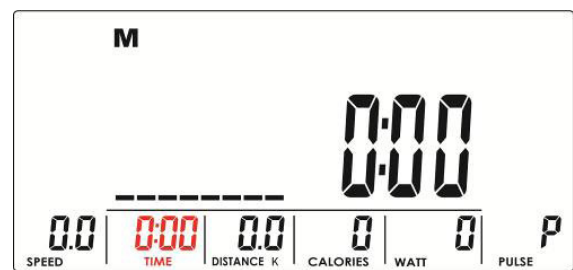

Figure 5
3. Set a value for time, distance, calories and/or heart rate with the jog dial and confirm each value with the Mode button (Fig. 5 - 8).